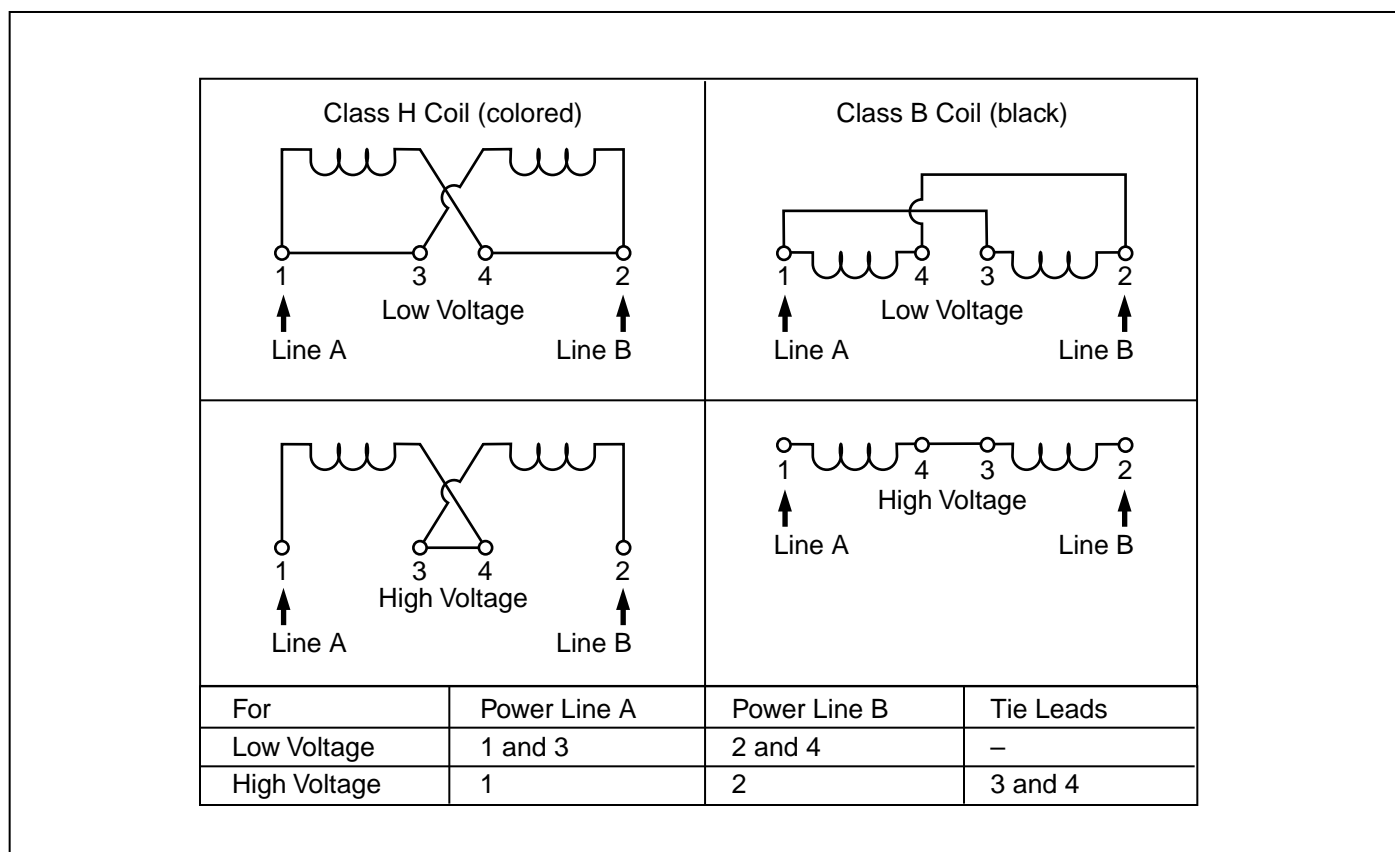

Figure 3.15 Dual Voltage Coil Connection
2. On single voltage coils, connect coil to any two leads on single or three-phase motors of the same voltage as the brake. Refer to brake nameplate and coil number for correct voltage and frequency. See Figure 3.15 for dual voltage coil connection and connect to any two leads of single or three-phase motor of the same voltage. The brake can also be wired to external switch contacts providing proper voltage other than that used to control the motor. Normally, the motor and brake contacts are interlocked.